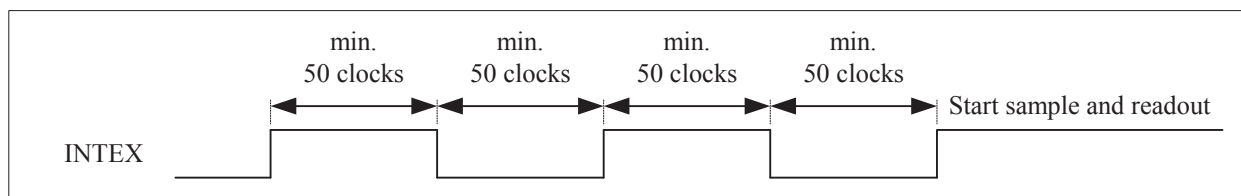

Figure 9. Extra setup timing required for the use of the signal output (using EXSH2).
- Either the reference output (using EXSH1) or the signal output (using EXSH2) can be used, but not both. If the signal output is used, extra transitions are needed for INTEX before the useful integration is started as shown in Figure 9.